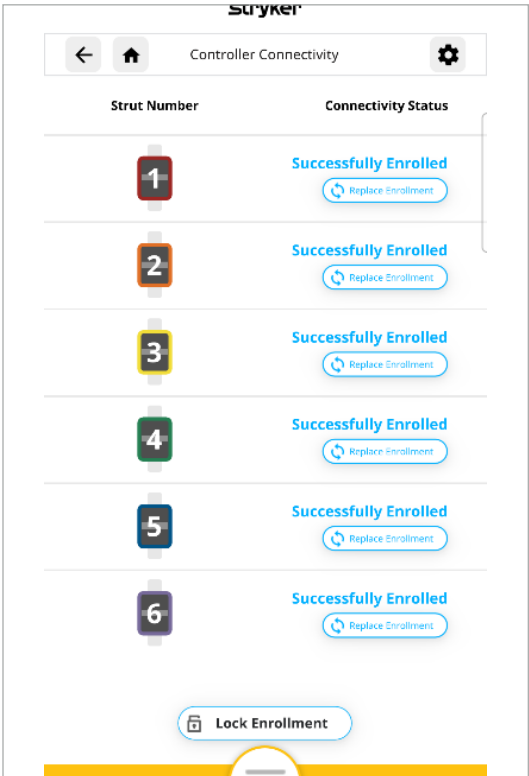

Figure 23
- Tap the Replace Enrollment button for the strut number to be replaced. (Figure 23)